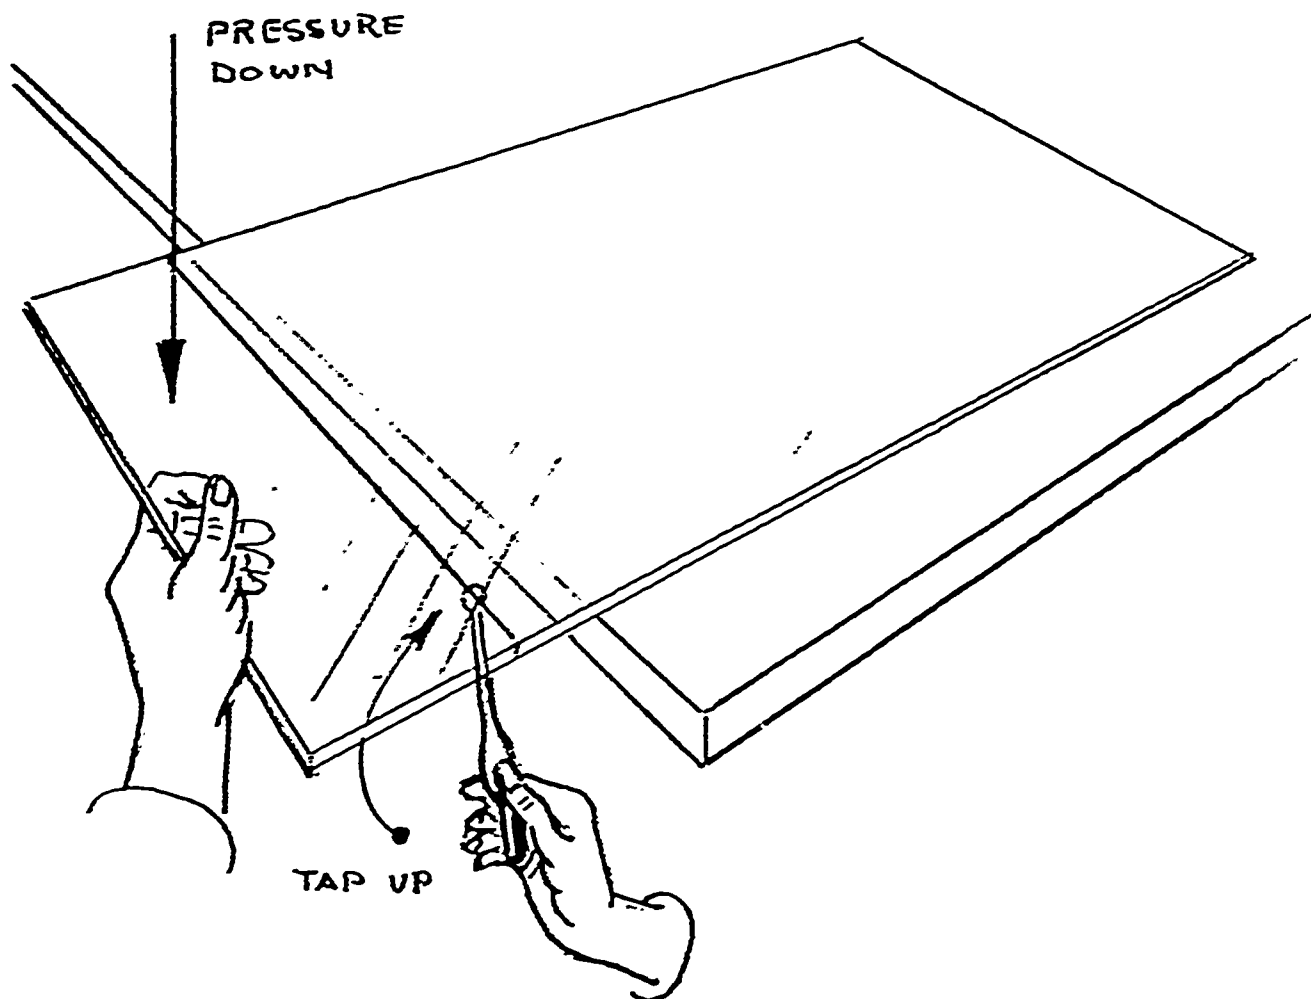

FIG. 245
9. Slide the glass over the edge of table -- Grip the unwanted portion with a glove hand applying a slight downward pressure-- smartly tap the underside directly under the score with the ball on the handle of the glass cutter. See figure 245.